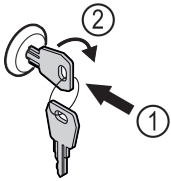

Fig. 158 Example illustration
- ▶ Insert key Fig. 158 (1).
- ▶ Turn key clockwise by 90° Fig. 158 (2).